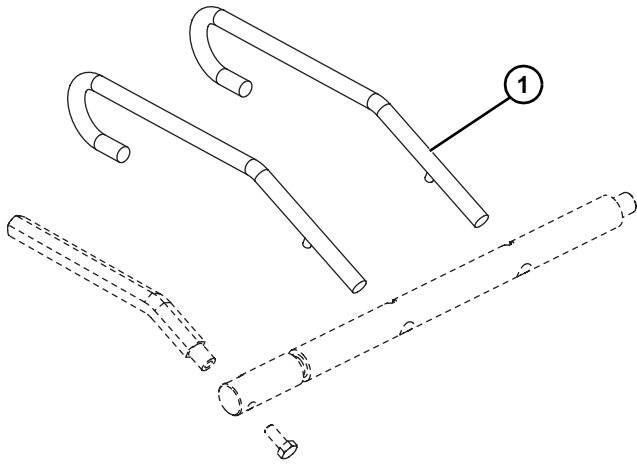

Figure 33
- Place belt lifter arms (**Figure 33, item 1**) in COP tank.